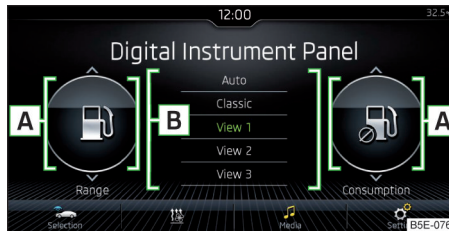

Fig. 36 Set the pre-selection option in Infotainment
- The desired additional information can be selected by moving your finger vertically across the display in the  » **Fig. 36** areas.